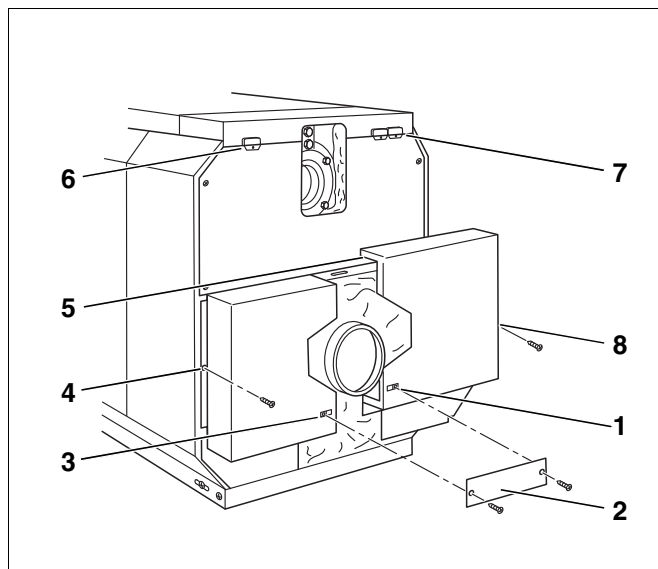

Fig. 56 Installing the boiler rear panel sections
- Insert snap nuts into the left and right-hand side panels and also the boiler rear panel sections (Fig. 56, [1], [3], [4] and [8]).
- Hang the bottom boiler rear panel sections on the left and right into the slots in the folded edge of the upper boiler rear panel and the side panel (Fig. 56, [5]).
- Screw the connecting plate (Fig. 56, [2]) below the flue outlet to the boiler rear panel sections using self-tapping screws.
- Fasten the plastic cable entries to the left or right-hand side of the upper boiler rear panel (Fig. 56, [5] and [6]).